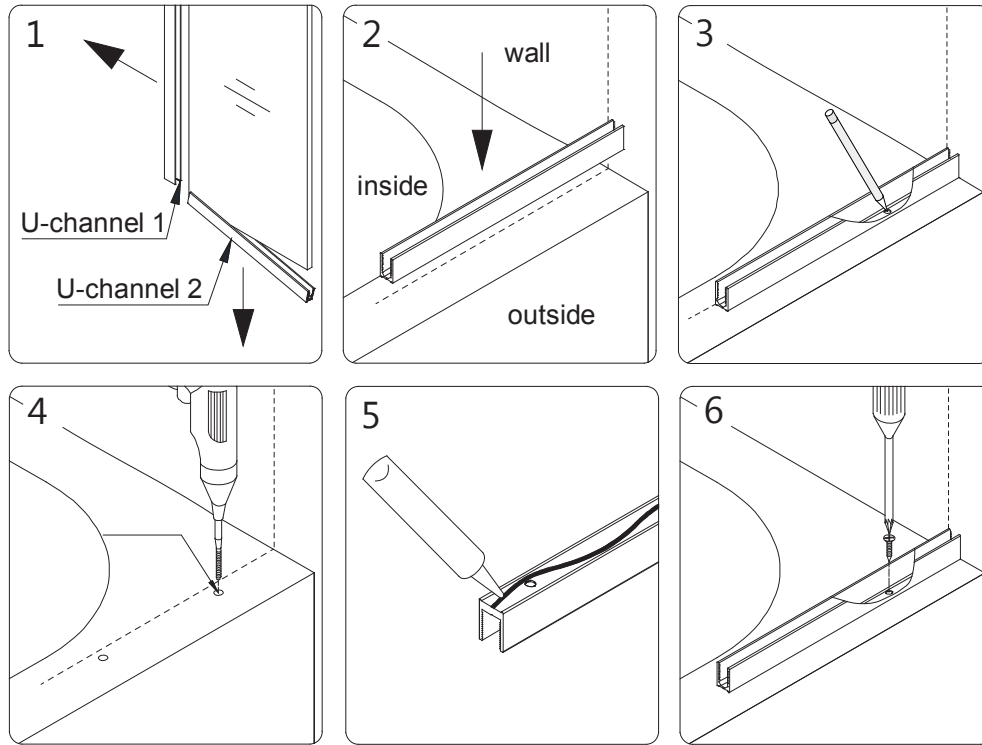

Fig 3
2. Remove the U-Channel 1 (wall profile) (#01) and U-Channel 2 (bottom profile) (#02) from the Extender Panel Glass (#03) and carefully set the Extender Panel Glass (#03) aside. Place the **U-Channel 2 (bottom profile) (#02)** back onto the tub surface in line with the inside U-Channel mark. Mark the drill holes on the tub surface through the pre-drilled holes in the **U-Channel 2 (bottom profile) (#02)** and drill the holes using an $\text{\O}1/8''$ drill bit. Apply waterproof silicone along the bottom surface and around the holes of the **U-Channel 2 (bottom profile) (#02)** and fasten it to the tub surface with the **Countersunk Screws ST4.2x25 (#06)**. **(Fig 3)**